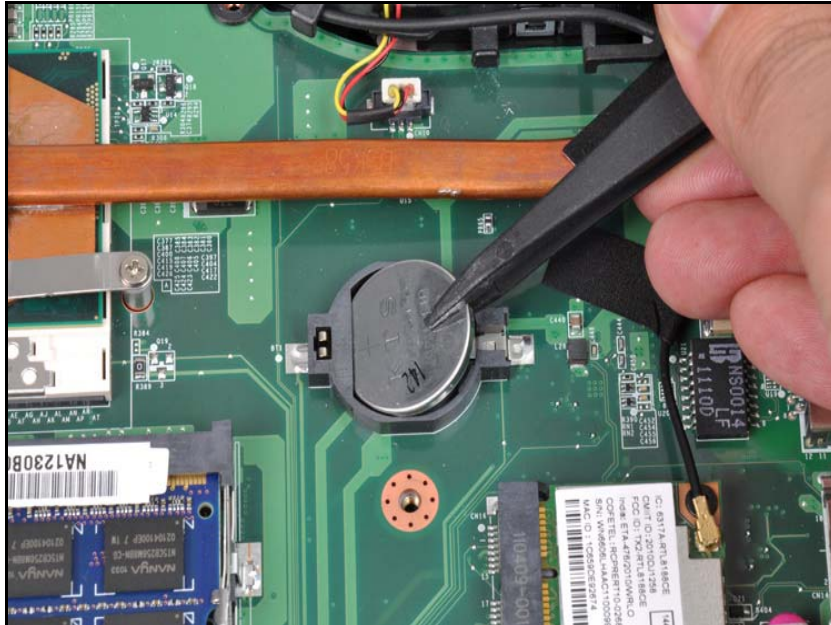

Figure 3-17. RTC battery
Follow local regulations for battery (C) disposal (Figure 3-17).